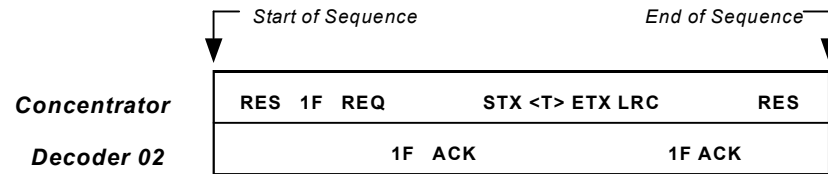
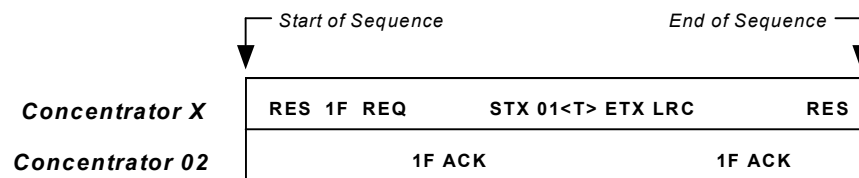

Figure 2-3 Select Sequence
Figure 2-9 Concentrator to Decoder Select Sequence
For example, if the host requests a trigger count (command <T>) from Decoder 02, it will transmit the data string 02<T>CR3 to the concentrator. The concentrator takes this command, strips off the 02 and substitutes the hex value 1F as shown in the following select sequence (figure 2-3).
**Second Select Sequence.** Concentrator 02 then relays the command to Decoder 01 in a typical select sequence as shown earlier in figure 2-3 on page 2-4. It strips off the 01 from the command, substitutes 1D hex as the select address, and transmits the remaining data, <T>, to Decoder 01, shown in figure 2-9.